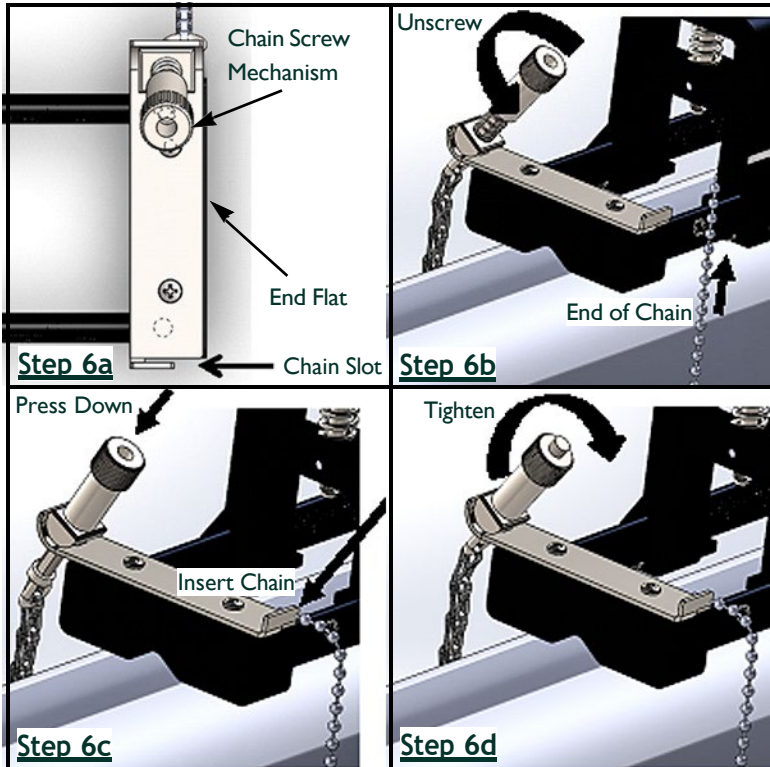

Figure 13: Installing a Chain
6. To install a chain around the pipe, refer to Figure 13 on page 13 and complete the following steps: